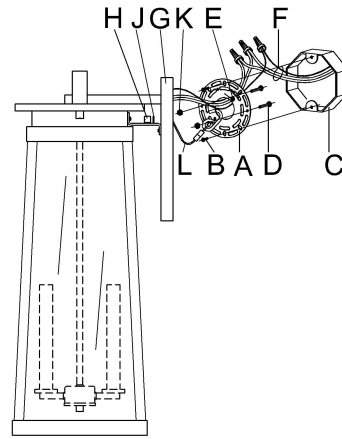

Fig. 2
## CONNECTING THE WIRES (Fig. 2)
5. Connect the electrical wires as shown in Fig.2. Make sure that all wire connectors are secured. If your outlet box (C) has a ground wire (green or bare copper), connect fixture's ground wire to it. Otherwise, connect fixture's ground wire directly to mounting plate (A) using green screw (E) provided.
6. Tuck the wire connectors neatly into outlet box (C).